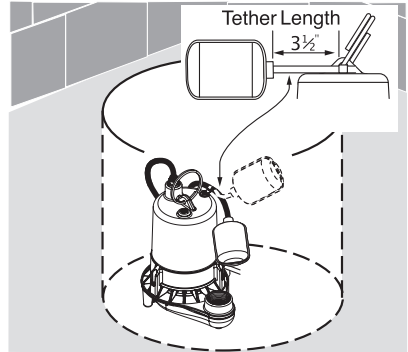

Figure 3
3. Place the pump in the sump; make sure that nothing interferes with switch operation, including incoming water. For tethered switch models, the tether length should be 3-1/2" (See Figure 3).